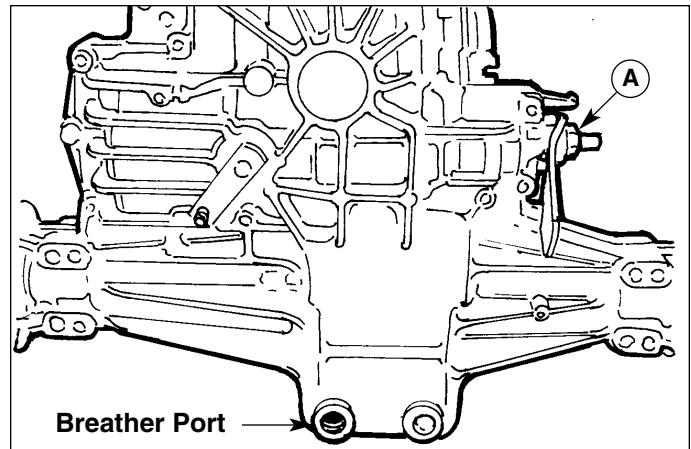

Figure D-10. Drain Oil From Breather Port
2. Remove the nut (A, Figure D-10) securing the brake arm and remove the brake arm.